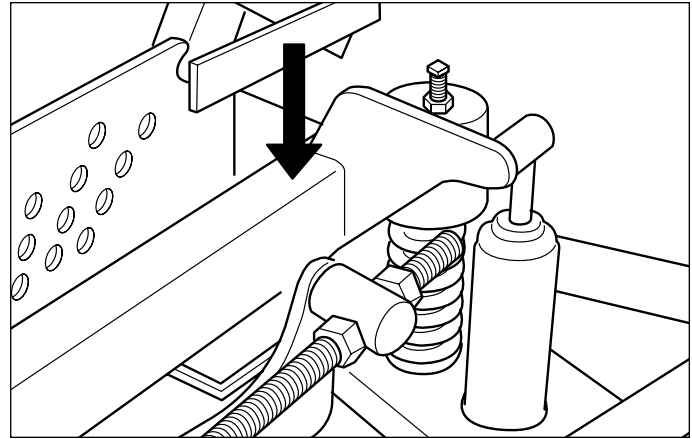

Figure 29. Front Frame Measurement
1. The measurement to the top side of the front frame rails, just behind the springs and shocks should be 20-5/8" (52,4cm) for each side (see arrow in Figure 29).